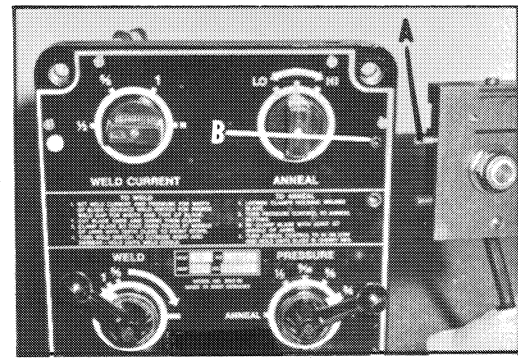

Fig. 1
1. Insert the pin (A) Fig. 1, into the hole (B) provided in the face of the welder.